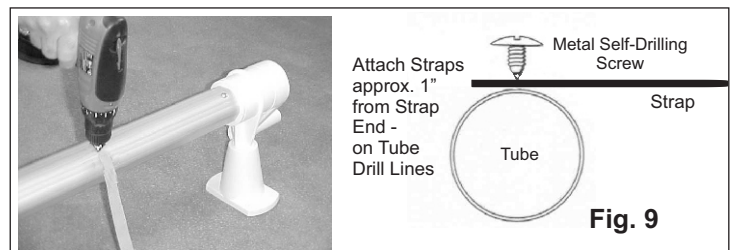

Fig. 9
- Mark each End Tube 6" (15 cm) in from the inside edge of pool top rail. Attach one Strap at each mark on a Drill Line (see Fig. 9). The remainder of the Straps will be spaced evenly - on Drill Lines - between the outside 2 Straps. Mark all strap locations before installing. Use all Straps provided. Note: Maximum distance between straps is 30"
- Attach Straps to Tubes at the marks with a Metal Screw directly through the strap material and approximately 1" back from the end of the strap (see Fig. 9). **DO NOT pre-drill holes** (a tiny "pilot hole" is acceptable) or over-tighten screw.